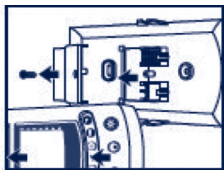

Fig 1.2
3. Inside the base plate remove the screw that secures the smaller protective cover (terminal block). (See Fig 1.2)